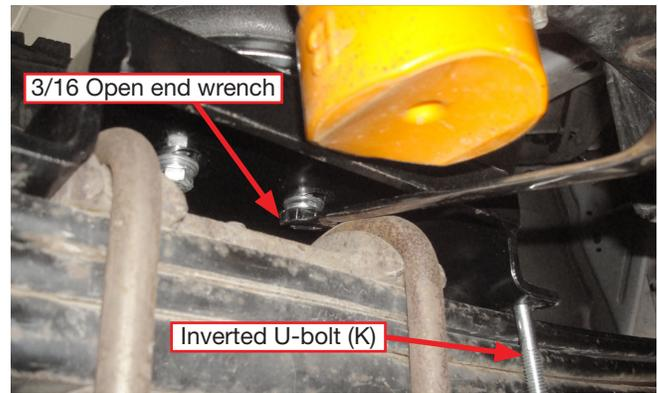

Fig. 11
- Temporarily set the U-bolts (L or K) down through the top of the lower bracket (front and rear) so that it aligns the lower bracket with the leaf springs (Fig. 11). Use an open-end wrench to just snug the lower bracket mounting hardware enough to hold the lower bracket into position. Remove the U-bolts and drop the axle or raise the body once more to gain access to the lower mounting hardware and torque to no more than 20 lb.-ft. (27Nm).